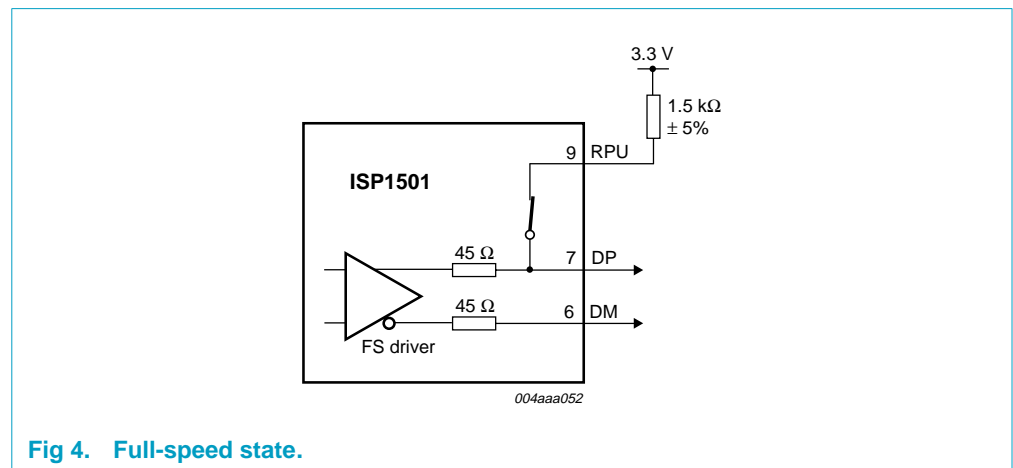

Fig 4. Full-speed state.
8.2.2 Full-speed (FS) state
In the full-speed (FS) state ($\text{MODE}[1:0] = 01$), an external pull-up resistor of $1.5 \text{ k}\Omega \pm 5\%$ is required on the DP line. This is implemented via the RPU resistor. The RPU resistor is internally connected to the DP line. The FS transceiver is enabled, and the legacy (Original USB) SIE interface is active (see Figure 4).